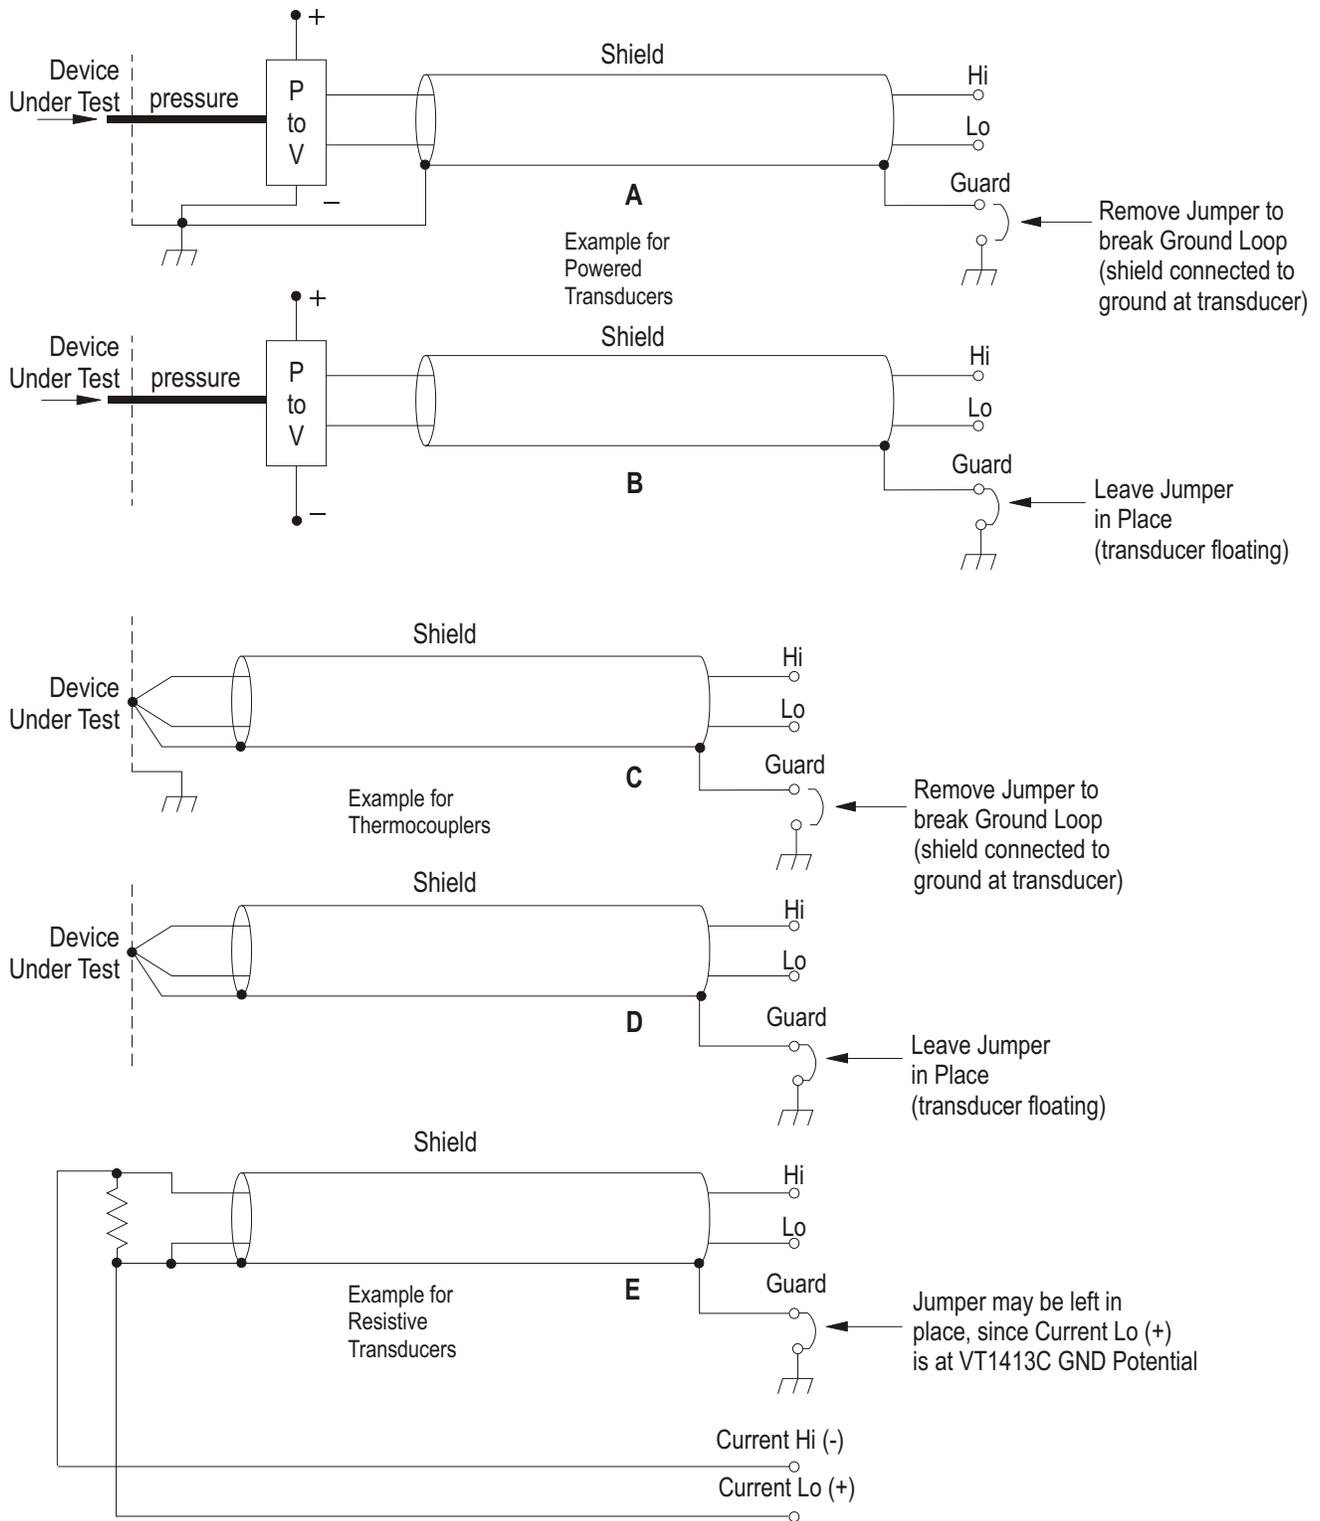

Figure 2-8: Preferred Signal Connections
For any Scanning A/D Converter module to scan channels at high speeds, it must use a very short sample period ($< 10 \mu\text{s}$ for the VT1413C). If significant normal-mode noise is presented to its inputs, that noise will be part of the measurement. To make quiet, accurate measurements in electrically noisy environments, use properly connected shielded wiring between the A/D and the device under test. Figure 2-8 shows recommended connections for powered transducers, thermocouples, and resistance transducers. (See Appendix F for more information on wiring techniques).
- a. **Grounded Transducer with shield connected to ground at the transducer:** Low frequency ground loops (dc and/or 50/60 Hz) can result if the shield is also grounded at the terminal module end. To prevent this, remove the GND-GRD jumper for that channel (Figure 2-8 A/C).
- b. **Floating Transducer with shield connected to the transducer at the source:** In this case, the best performance will most likely be achieved by leaving the GND-GRD jumper in place (Figure 2-8 B/D).